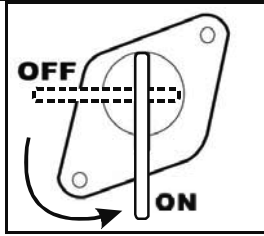

Figure 12- Fuel Valve in the “on” position
4. Turn the fuel valve to the “ON” position (see figure 12).